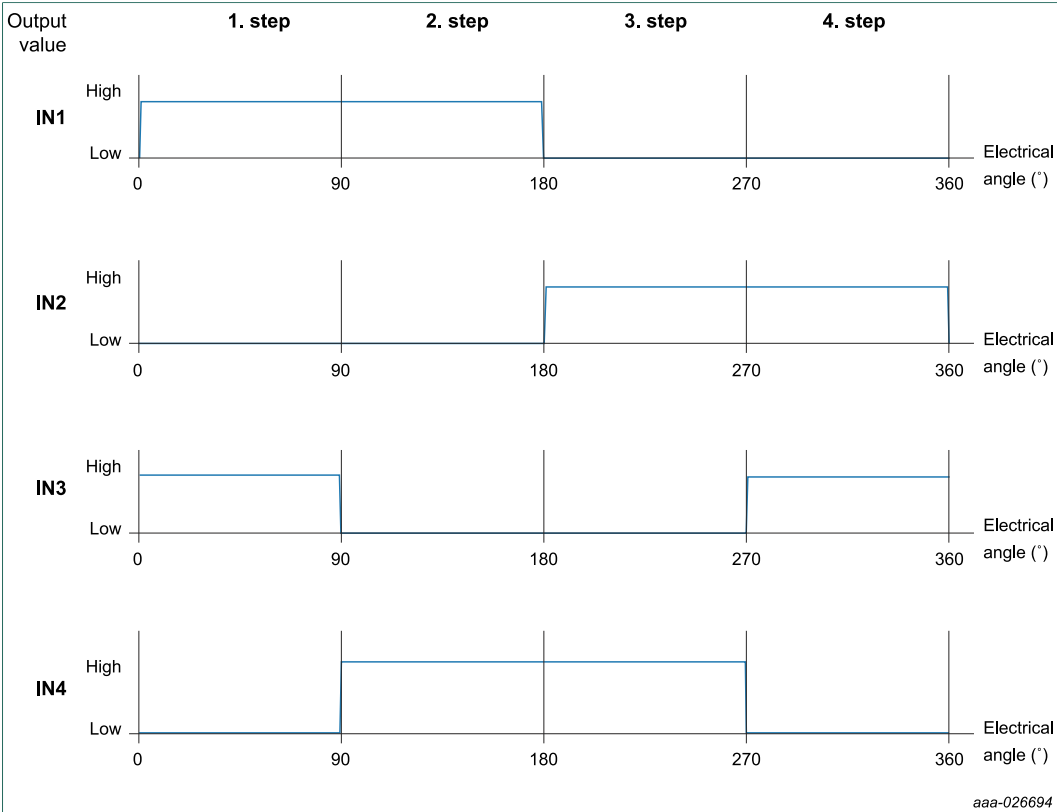
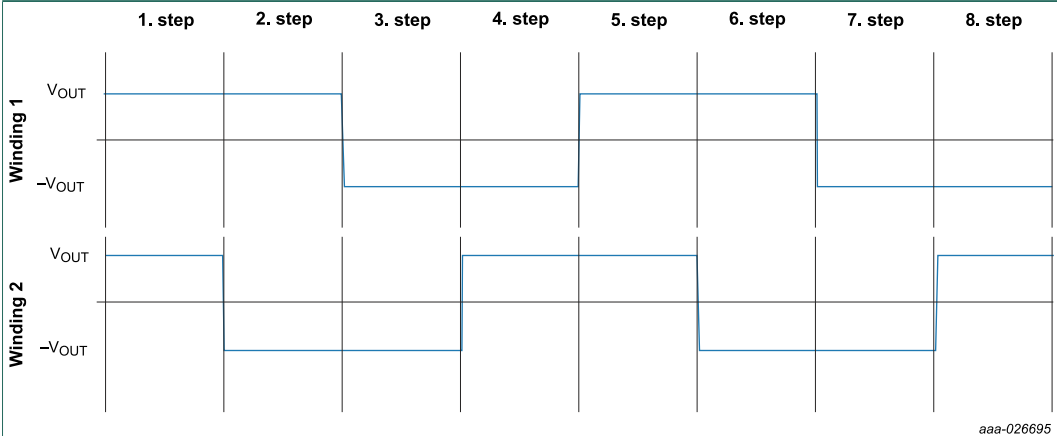

Figure 21. Signals of logic input pins generated by the MCU in full-step mode
Figure 22. Output of the H-bridge device in full-step mode
- Forward motor direction indicates that steps are executed in the order depicted in Figure 21. IN1 through IN4 are the input pins of the H-bridge device which control H-bridge outputs. These pins input to the stepper motor. You must connect the stepper motor to output pins OUT1-OUT4 and select control input pins on your MCU in the component settings.
As mentioned in Section 6.5.4 "Setting up a project to control a stepper motor", you can generate a full-stepping signal either by using four channels of a timer or by using four GPIO pins. The signal generated by the MCU (inputs of H-bridge device) using four timer channels is shown in Figure 21. The voltage levels applied to the coils of the stepper motor are depicted in Figure 22. Note that the voltage is applied to both coils at the same time.